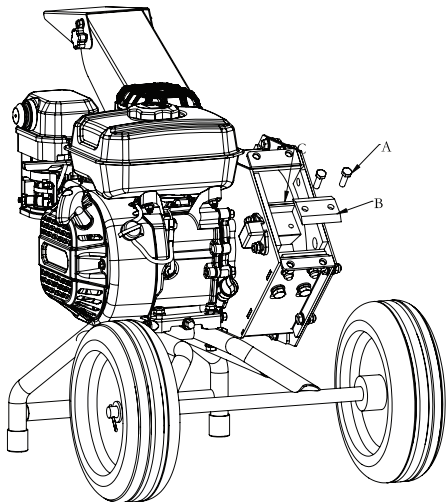

Figure 8
- 2. Brace the cutting disk (C), loosen M8*25 bolt (A), and remove and replace the blade with a new one (B). (See Figure 8) After replacing the blade, thread locker adhesive is required when reattaching M8*25 bolt (A) to prevent loosening.